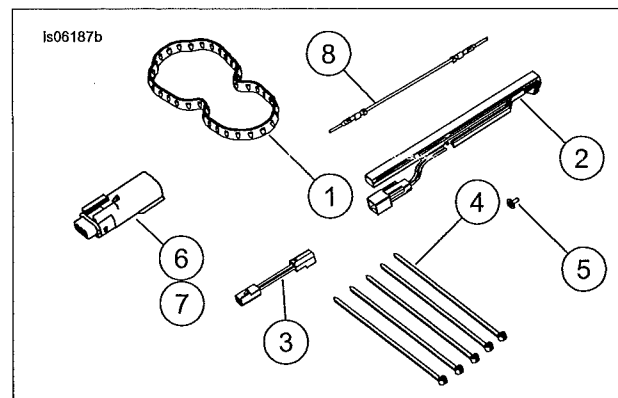

Figure 3. Service Parts for Sportster Fuel Gauge
See Figure 3 and Table 1.
- d. Secure the fuel level sensor to the fuel pump with screw (3). Tighten the screw enough to seat the fuel sensor against the mounting tab.
- e. Route fuel level sensor wiring under the fuel hose and connect the fuel level sensor to the low fuel switch connector on the fuel pump module. If necessary use the jumper harness (Figure 3, item 3).